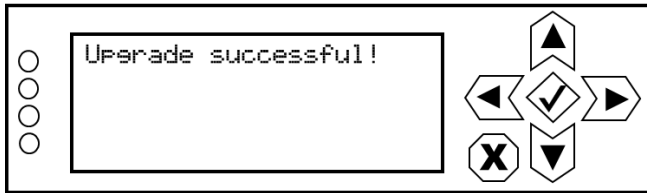
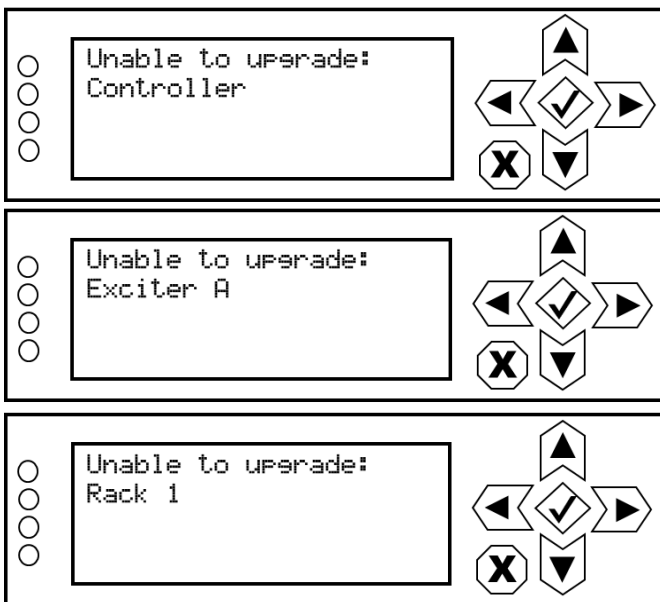

Figure 16: Controller UI – ‘Upgrade successful!’ screen
Figure 17: Controller UI – Examples of ‘Unable to upgrade’ screens
- (i) When upgrades are complete, the AUI will reboot again. The reboot takes approximately two (2) minutes.
- (j) If the upgrade was successful, the controller UI will display the screen in Figure 16. If the upgrade was not successful, the controller UI will display one of the screens in Figure 17. In either case, proceed to the next step.